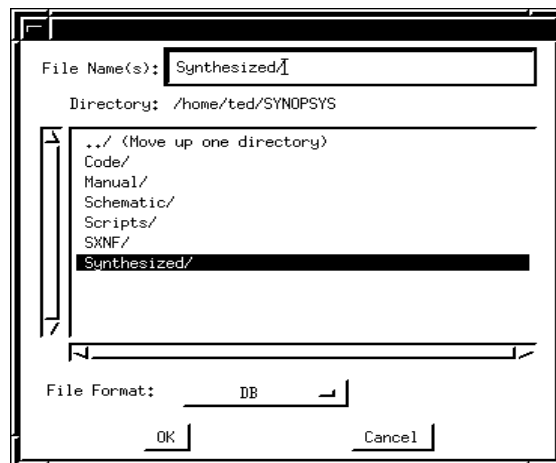

Figure 14: Read File.
(4) We will use the Design analyzer to examine the pre and post replace\_fpga synthesis results. type design\_analyzer from the Unix command (enter this command from the Synopsys directory). Select File -> Read from the top portion of the Synopsys Design Analyzer window. The Read File window will appear as shown in Figure 14. From this window, left click on the Synthesized directory in the central portion of the window. After doing so, the Synthesized/ directory will appear in the File Name(s) field. Move the cursor to the right of this name and left click the mouse. Press the Return key on the keyboard. The scroll window will now list the files found your Synthesized directory (see Figure 15). Select half\_adder\_before\_replace\_fpga.db and select the OK button.